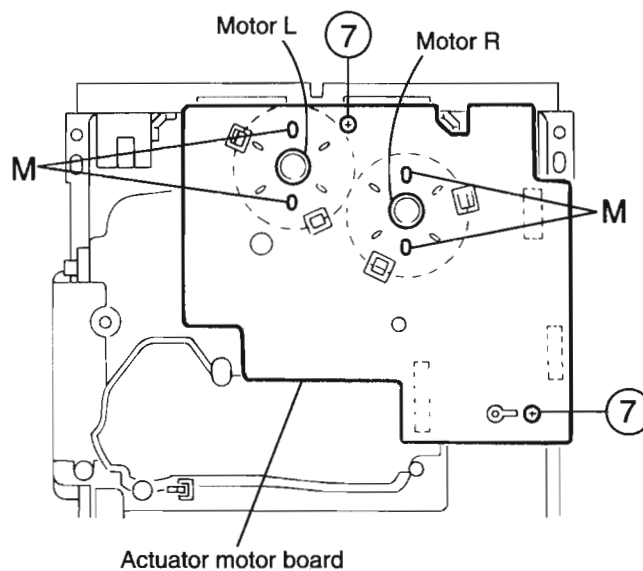

Fig.14
## ■ Removing the actuator motor board (See Fig.14, 15)
1. Absorb the four soldered positions "M" of the right and left motors with a soldering absorber(See Fig.14).
2. Remove the two screws 7 retaining the actuator motor board(See Fig.14).
2. Remove the four screws 6 attaching the Traverse mechanism mounting assembly. Lift the assembly to release the joint (f) (see Fig.14), and move it in the direction of the arrows (see Fig.11) to release the joint(g) (see Fig.11,13 and 14).